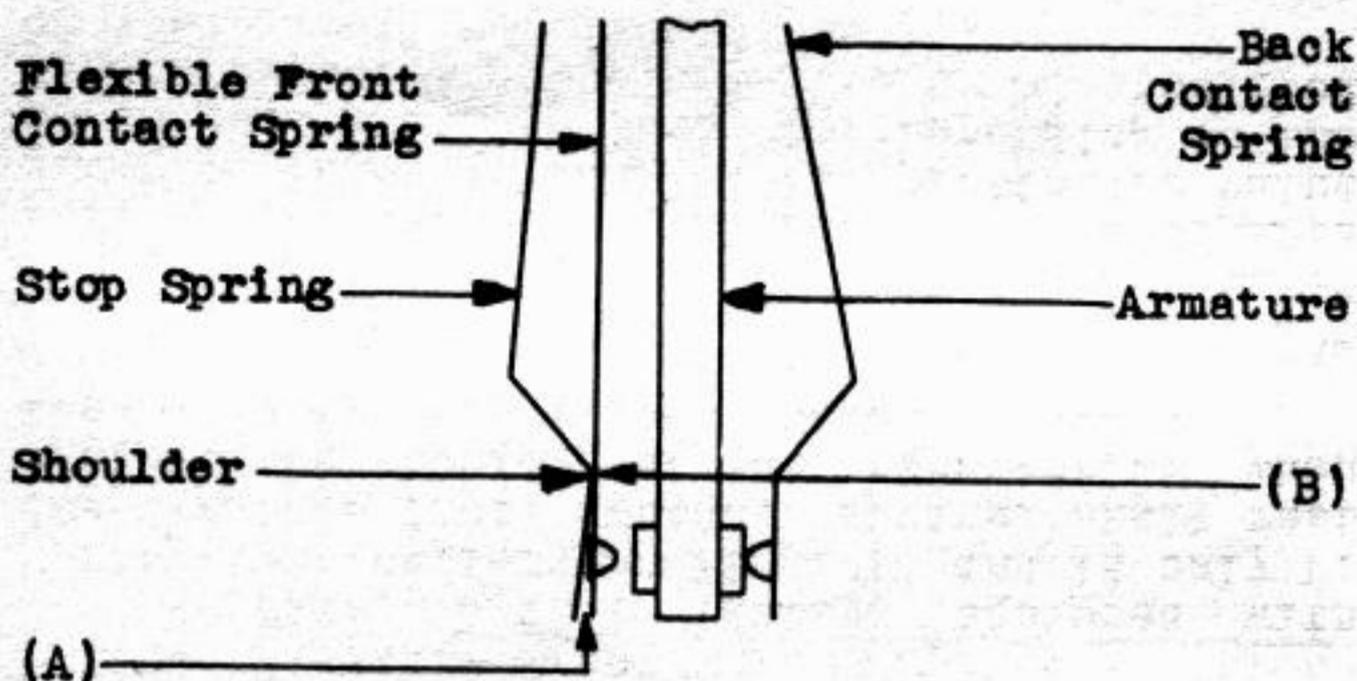

Fig. 105 - Contact Follow
2.08 Contact Follow - Fig. 105 (A): (Relays equipped with spring combinations per Fig. 13 and Fig. 14 only)
2.09 Flexible Front Contact Spring Position - Fig. 105 (B): (Relays equipped with spring combinations per Figs. 13 and 14 only). The flexible front contact spring shall rest against the shoulder of the stop spring when the relay is unoperated. Gauge by eye.